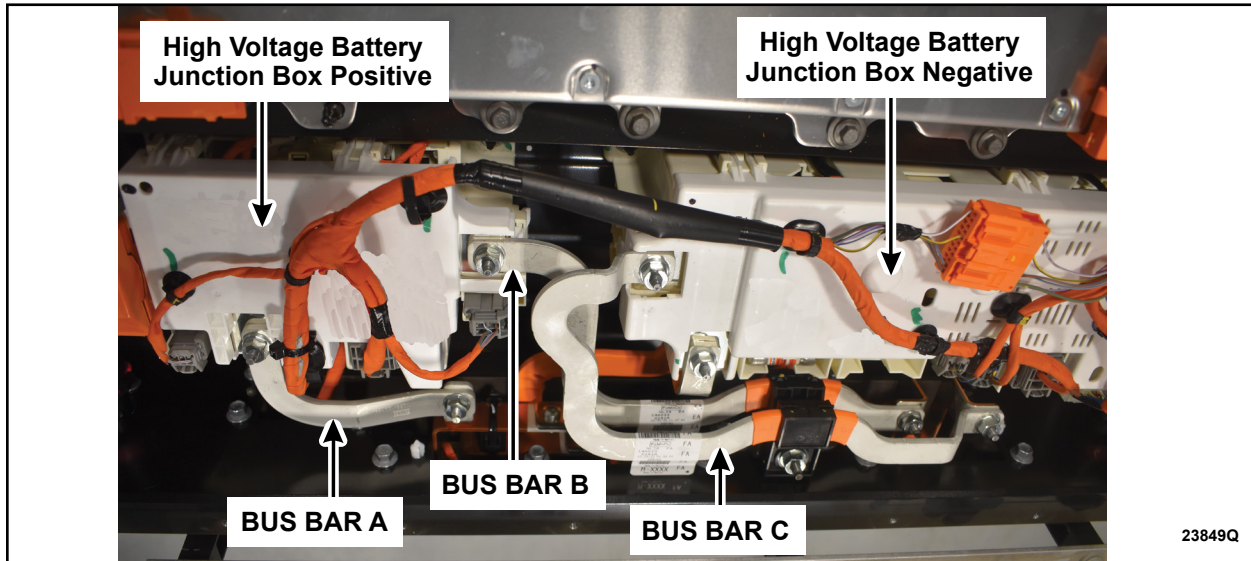

FIGURE 15
31. See Figures 15 and 16 to determine which part(s) will be replaced.